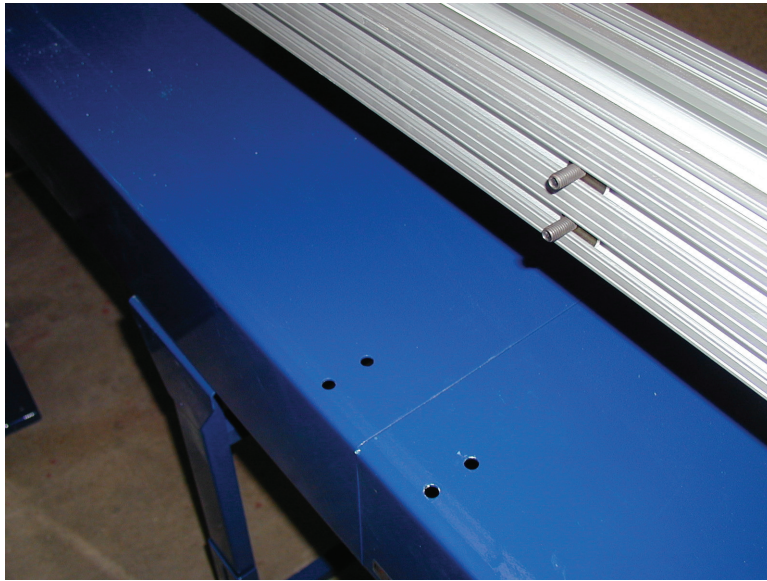

Figure 1.2 Dual Threaded Bolts into the T-Nuts.
1. Simply insert the dual threaded bolts into the T-Nuts in the bottom of the rail. See figure 1.2.